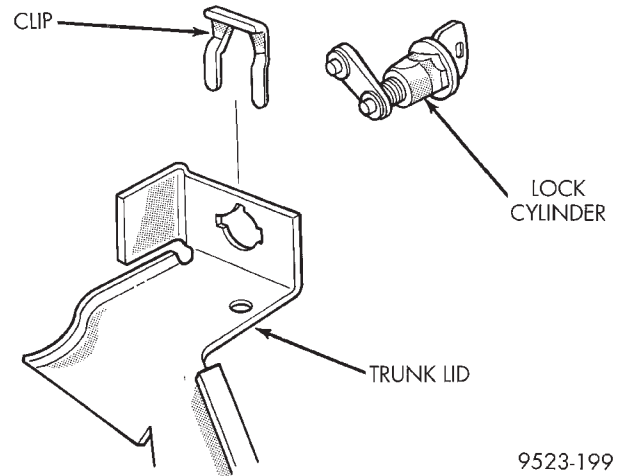

Fig. 63 Decklid Lock
- (1) Remove decklid latch.
- (2) Remove clip attaching decklid lock cylinder to decklid latch (Fig. 63).
- (3) Remove lock cylinder from decklid latch.